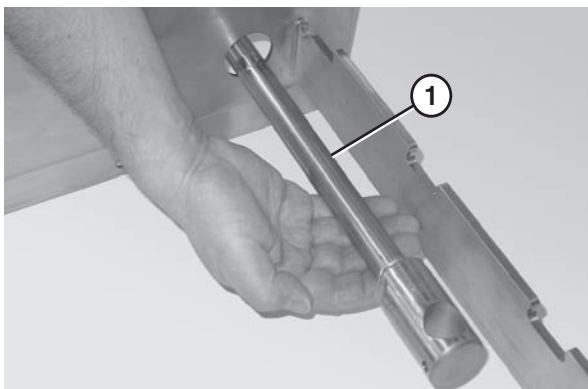

Figure 14
1. Slide the tip up shaft (**Figure 14, item 1**) through the designated slots in the frame.